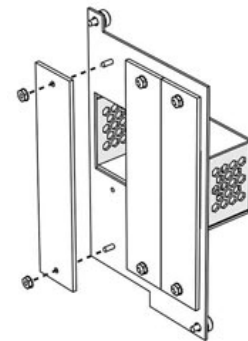

Figure 29. Remove Blanking Cover(s)
- Step 3.** Depending on number of breakers selected, remove the plastic blanking cover(s) by uninstalling the 6-32 hex nuts (see Figure 29).